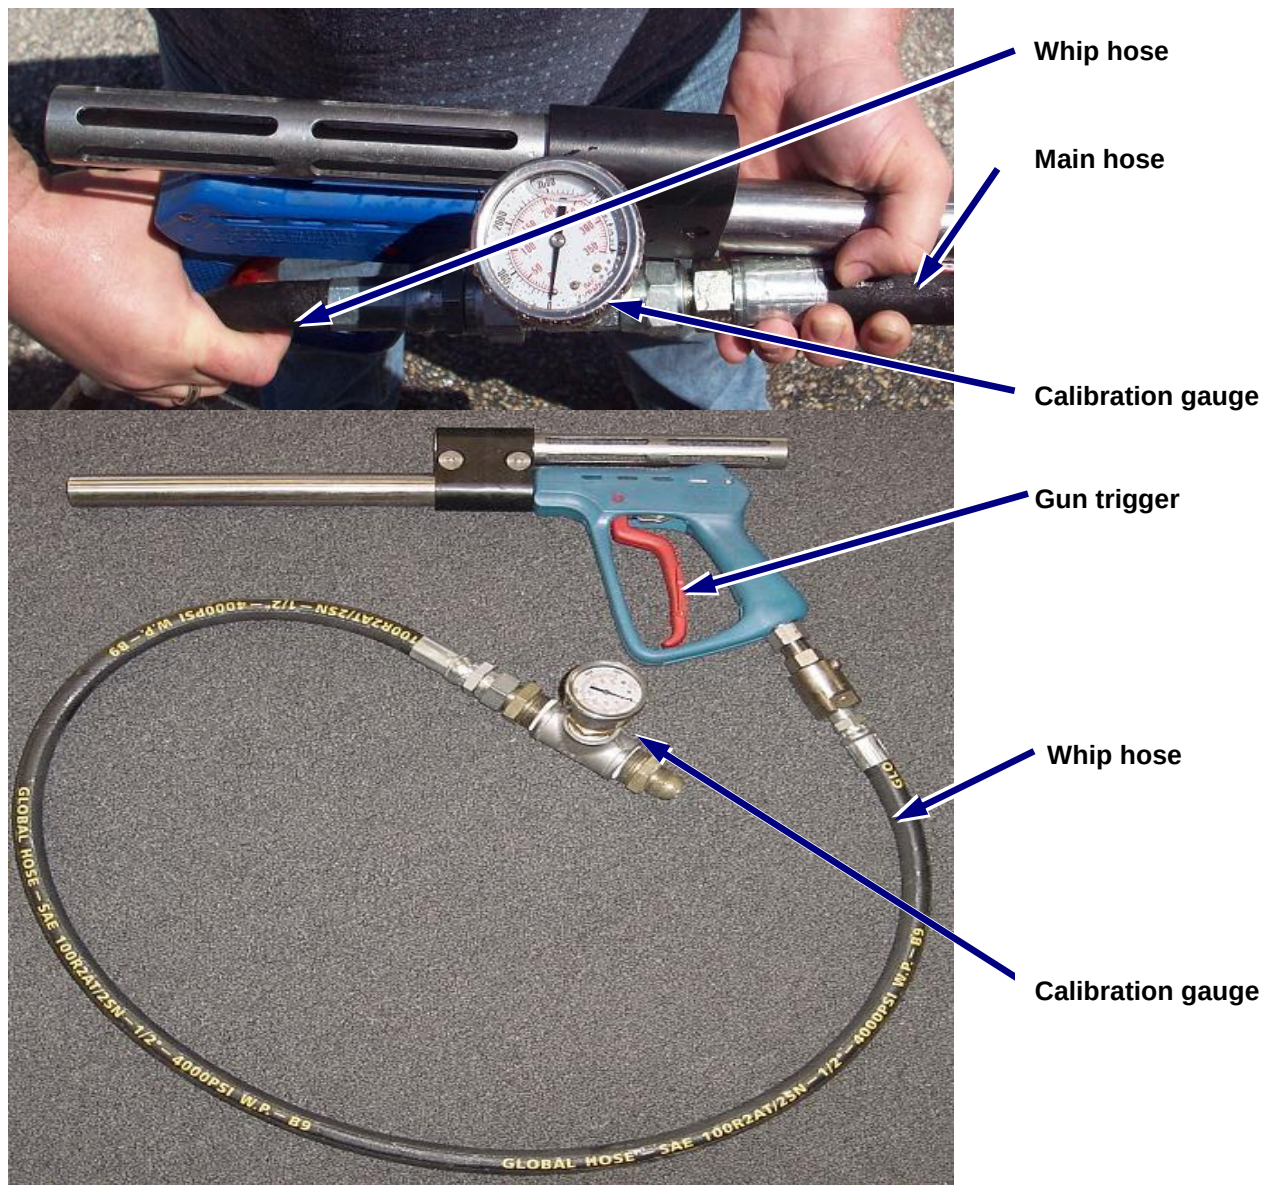

Figure 5.2 – Gun Pressure Calibration
- Pull the gun trigger to the open or "ON" position (See Figure 5.2).
- Hold the gun tight and observe the calibration gauge (See Figure 5.2).